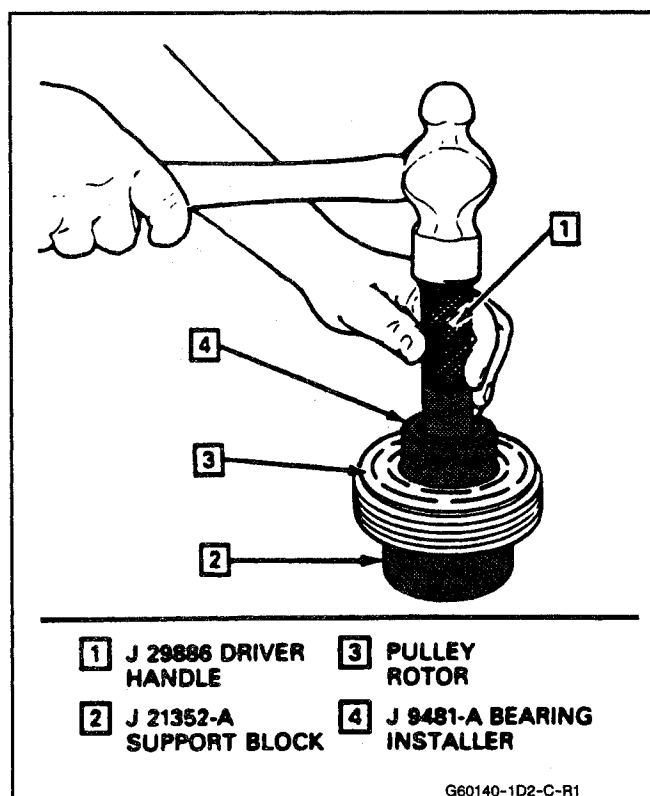

Fig. 10 Installing Pulley Rotor Bearing
1. Place the pulley rotor on the J 21352-A support block to fully support the rotor hub during bearing installation (Fig. 10).
2. Align the new bearing squarely with the hub bore and using puller and bearing installer J 9481-A with universal handle J 29886, drive the bearing fully into the hub (Fig. 10). The installer will apply force to the outer race of the bearing, if used as shown.